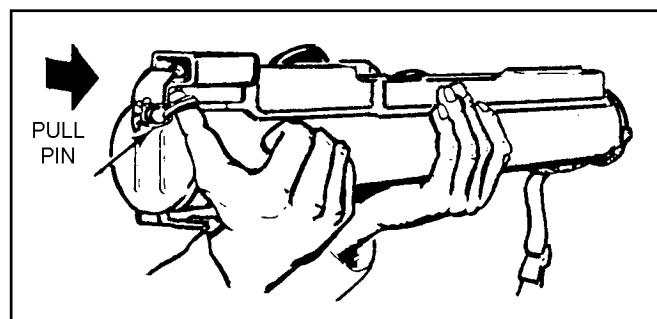

Figure 2-15. Removing the pull pin.
- (1) Remove the pull pin and rotate the rear cover downward so the front cover and adjustable sling assembly can fall free (Figures 2-15 and 2-16, page 2-11). Do not discard the sling assembly until after you fire the rocket.